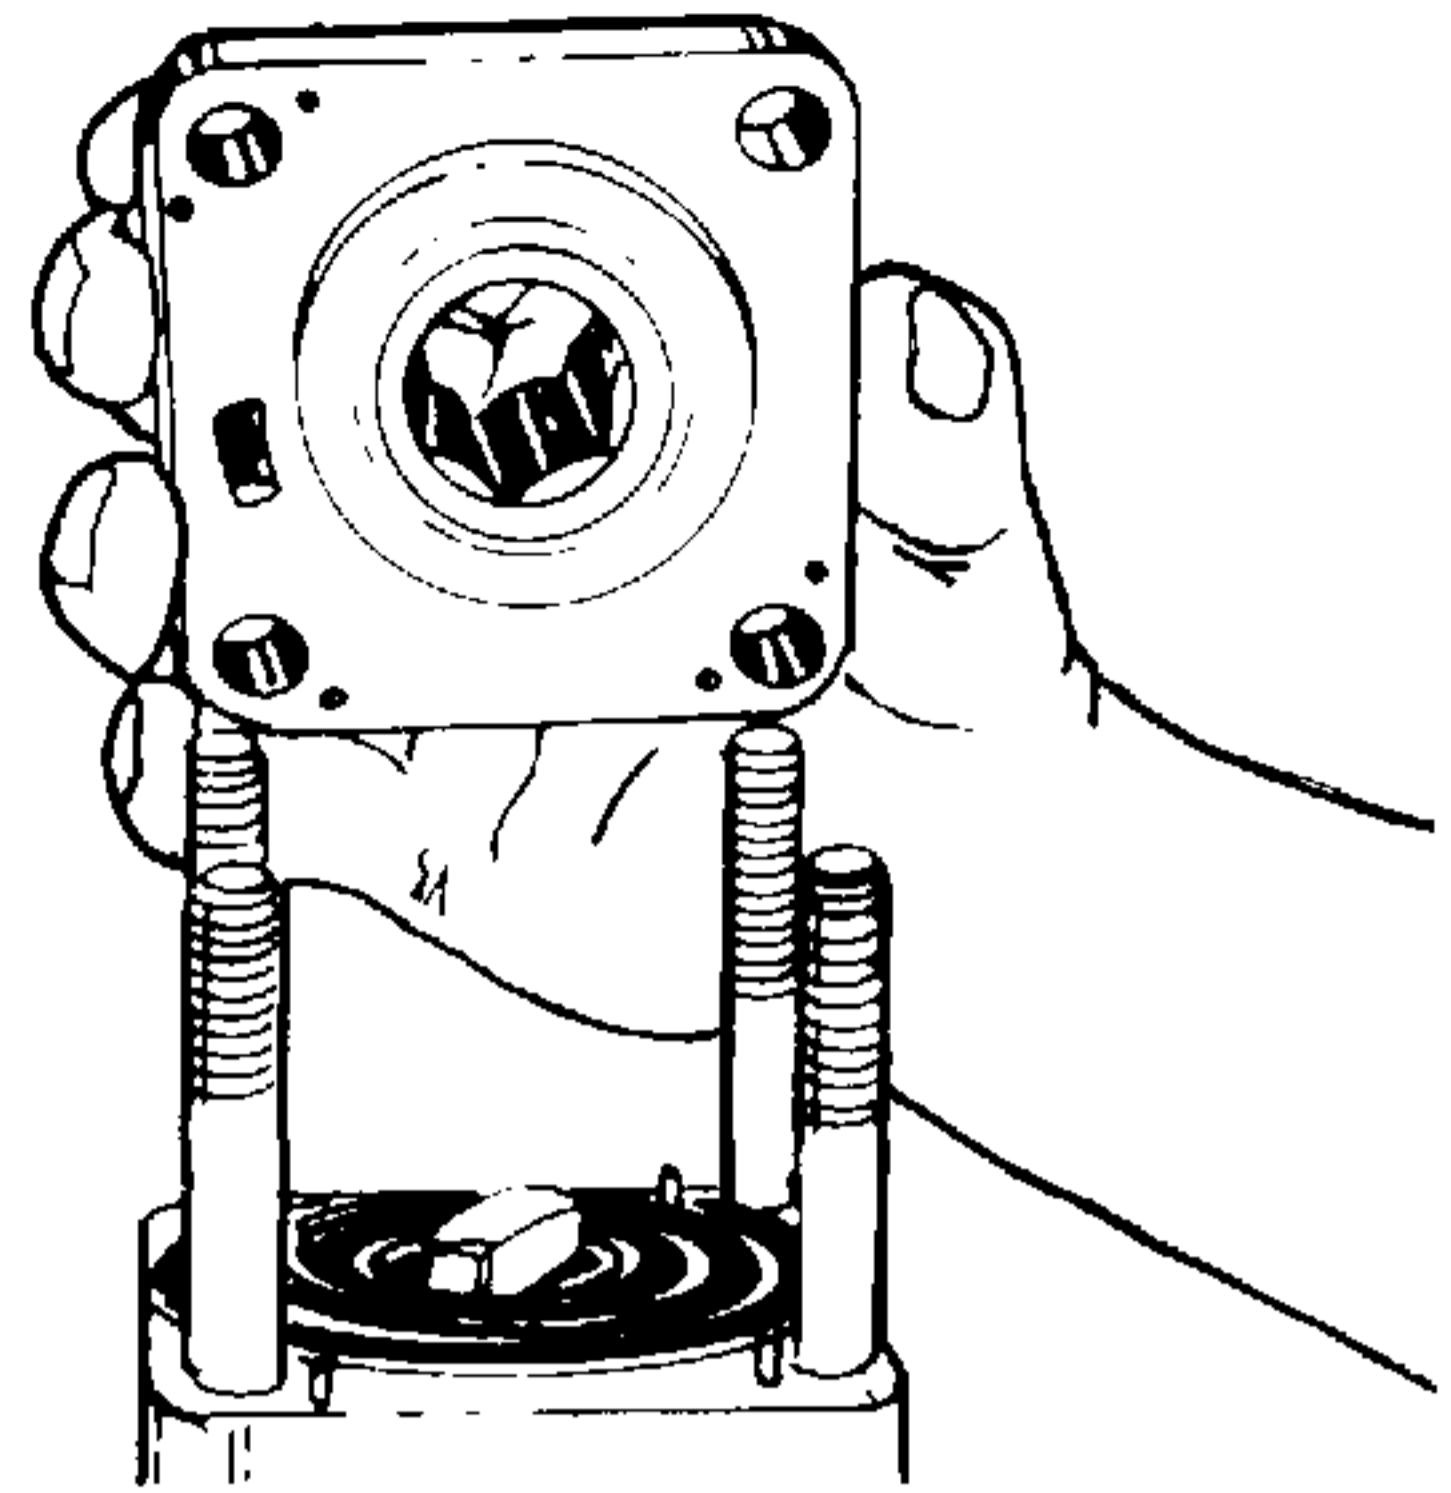

Figure 4-18. Removing Isolation Manifold.
18. Remove isolation manifold (13) (four plates bonded together). See Figure 4-18.